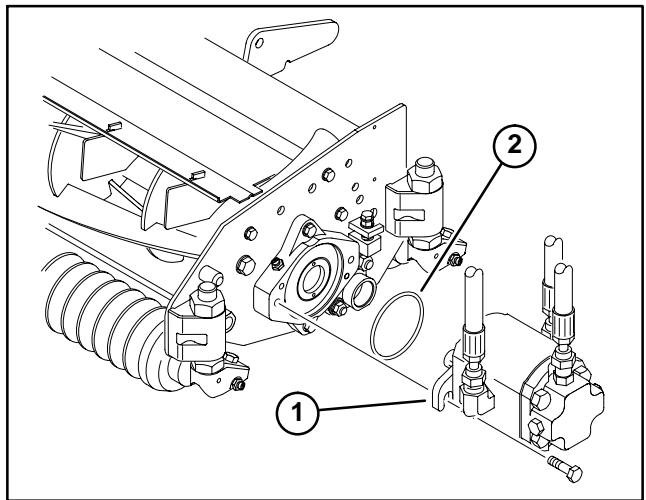

Figure 40
14. Mount the motor to the drive end of the cutting unit and secure with two capscrews provided (Fig. 40).